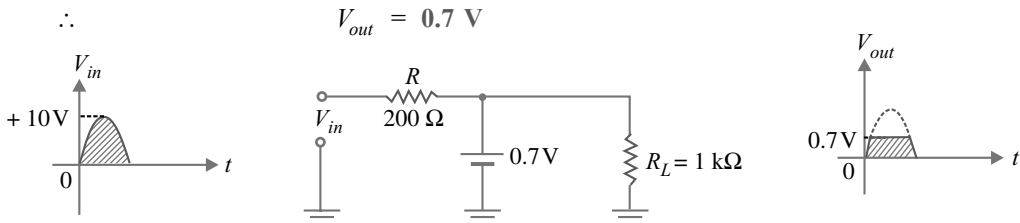

Fig. 16.39
**Positive half-cycle.** During the positive half-cycle of the input a.c. signal, the diode is forward biased. Therefore, diode can be replaced by its simplified equivalent circuit as shown in Fig. 16.39. Since the load is connected in parallel with the diode,